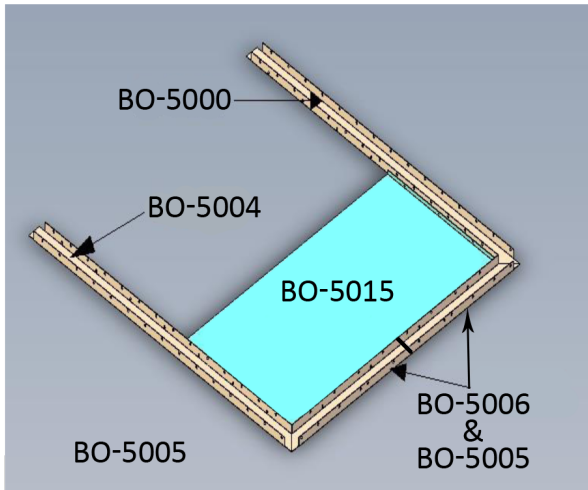

Figure 1
1) Start with laying out parts BO-5000, BO-5004, BO-5005, BO-5006, and BO-5015. Do not bolt parts together yet. *See figure 1.*